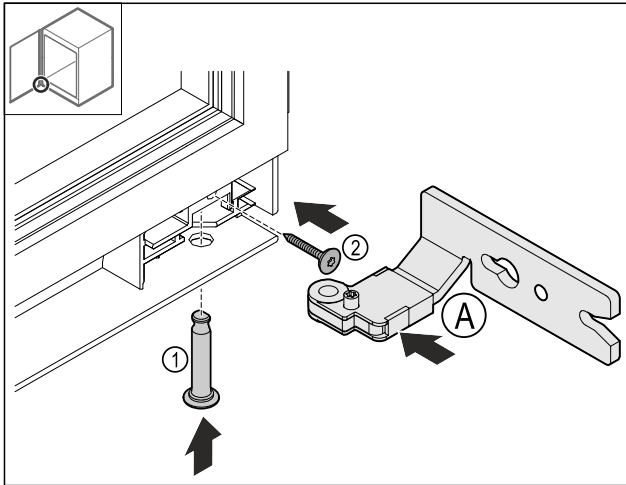

Fig. 25
- ▶ Insert the bottom hinge Fig. 25 (A).
- ▶ Insert the pin Fig. 25 (1) and hold it.
- ▶ Tighten the screw Fig. 25 (2).